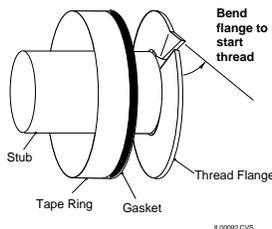

FIG. 3
**STEP 3.** Bend the starting edge of the spin-in takeoff thread flange as shown in Fig. 3. Then twist the spin-in into the hole.